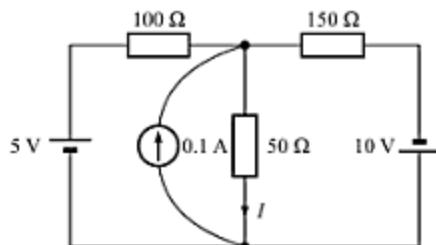

Fig. 4.40
- For the circuit shown in Fig. 4.40, determine the current in $50\text{-}\Omega$ resistor with the reference direction